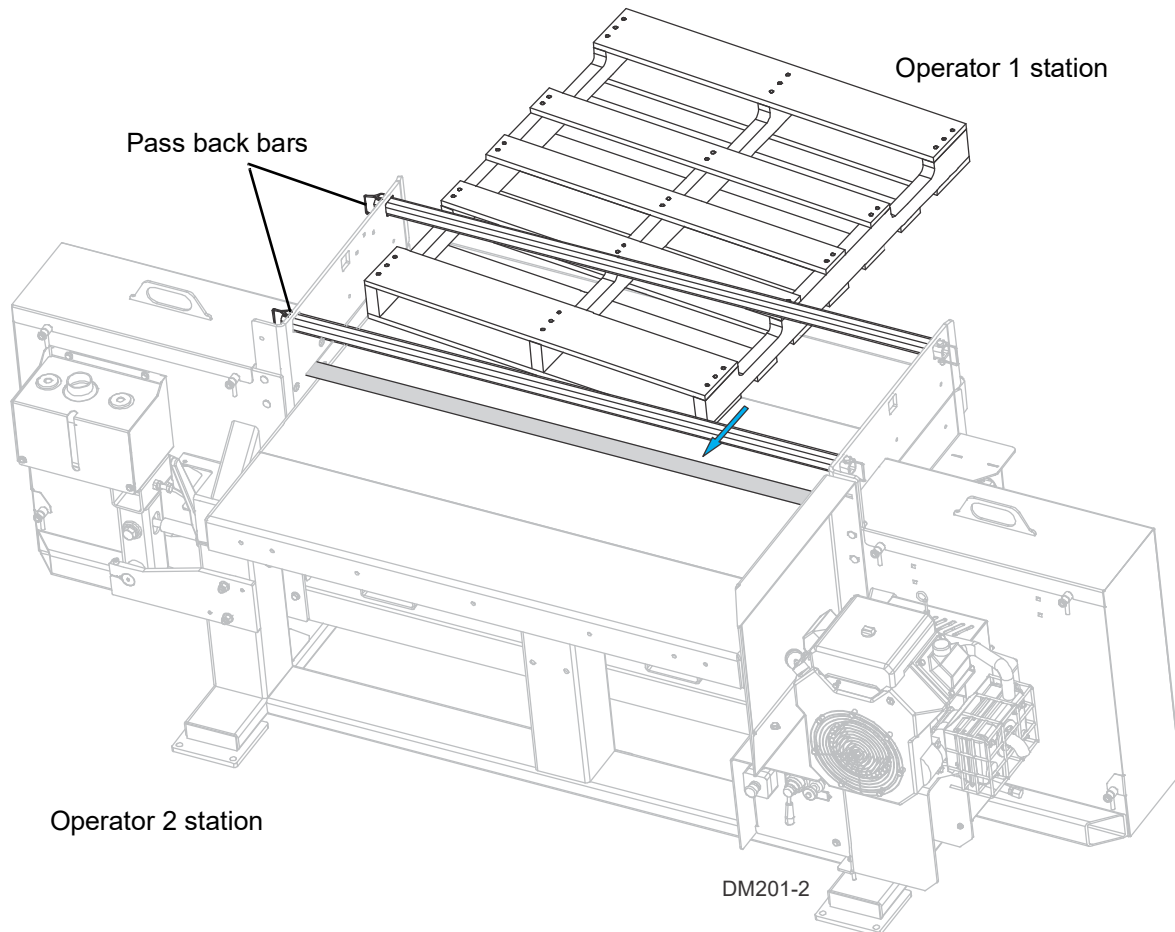

FIG. 3-4
See Figure 3-4.
9. **Operator 1:** With the pallet at a slight angle to the blade, push the pallet half way through the blade.(See Figure 3-4.)